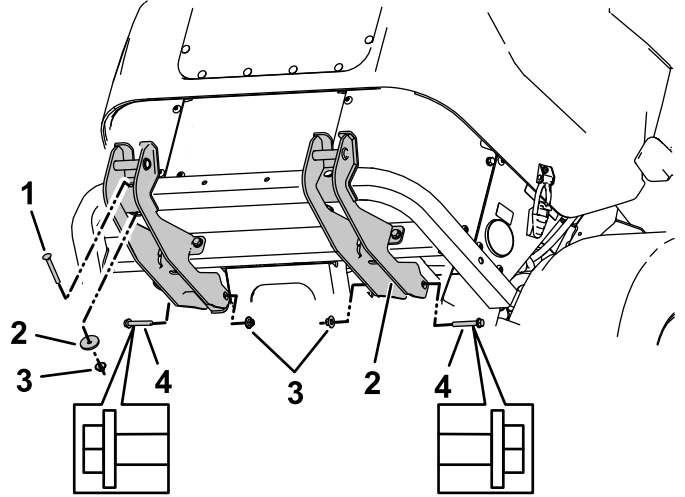

Figure 11
3. Loosely install 1 carriage bolt (3/8 x 3 inches), 1 thick washer, and 1 locknut (3/8 inch) into each lower mount bracket through the front of the rear bumper (Figure 11).
4. Loosely install 2 bolts (3/8 x 2-1/2 inches) and 2 locknuts (3/8 inch) at the front of the frame brackets (Figure 11).
Note: The head of the bolts should face outward on each bracket (Figure 11).